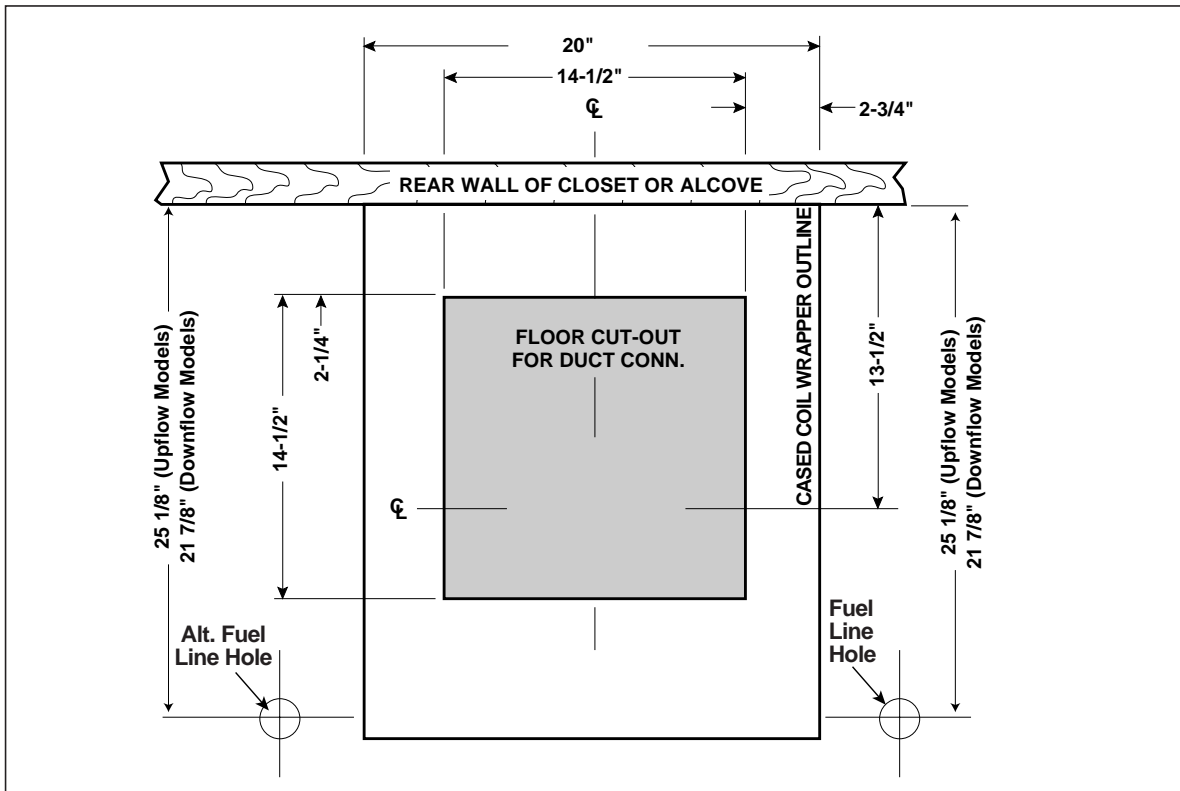

Figure 6. Cut-Out Locations
- Locate center of the floor opening, measured 10" from the rear wall, and mark cut-out measuring approximately 14-1/2" by 14-1/2" ($\pm 1"$) for model duct connector used (refer to Figures 6 & 7).